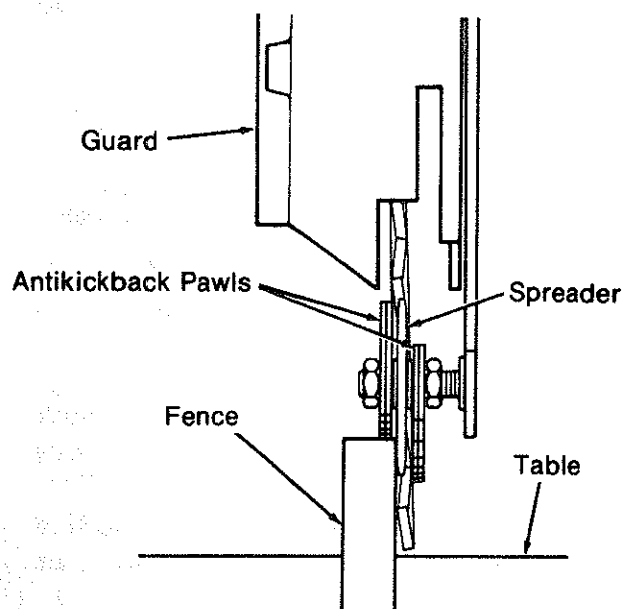

Fig. 127
11. Lower the *spreader* and *antikickback pawls* until the *spreader* is against the *fence*, and the *pawls* on one side of the *spreader* are on top of the *fence*. (Figure 127)